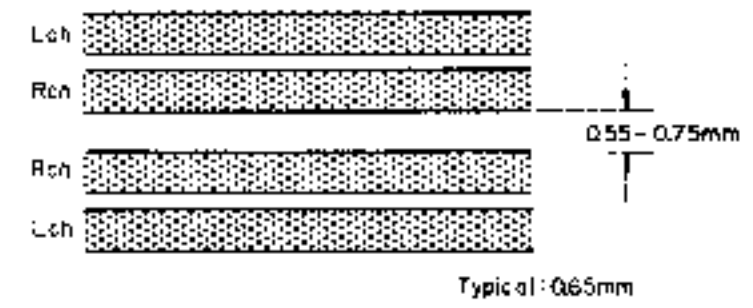

Fig. 2.16
- (l) Immerse the recorded tape in a magnetized developing solution. In turn, check to insure that the recording head tracks across the center are separated with a distance of 0.55 to 0.75 mm (typically 0.65 mm) as illustrated in Fig. 2.16. Note: Liquid for tape magnetized development solution "MAGNA-SEE SOUND CRAFT a product of CBS RECORDS a division of Columbia Broadcasting System, Inc., Danbury, Conn. 06810 U.S.A., or equivalent". After development, clean the tape otherwise pressure rollers and heads will become dirty.